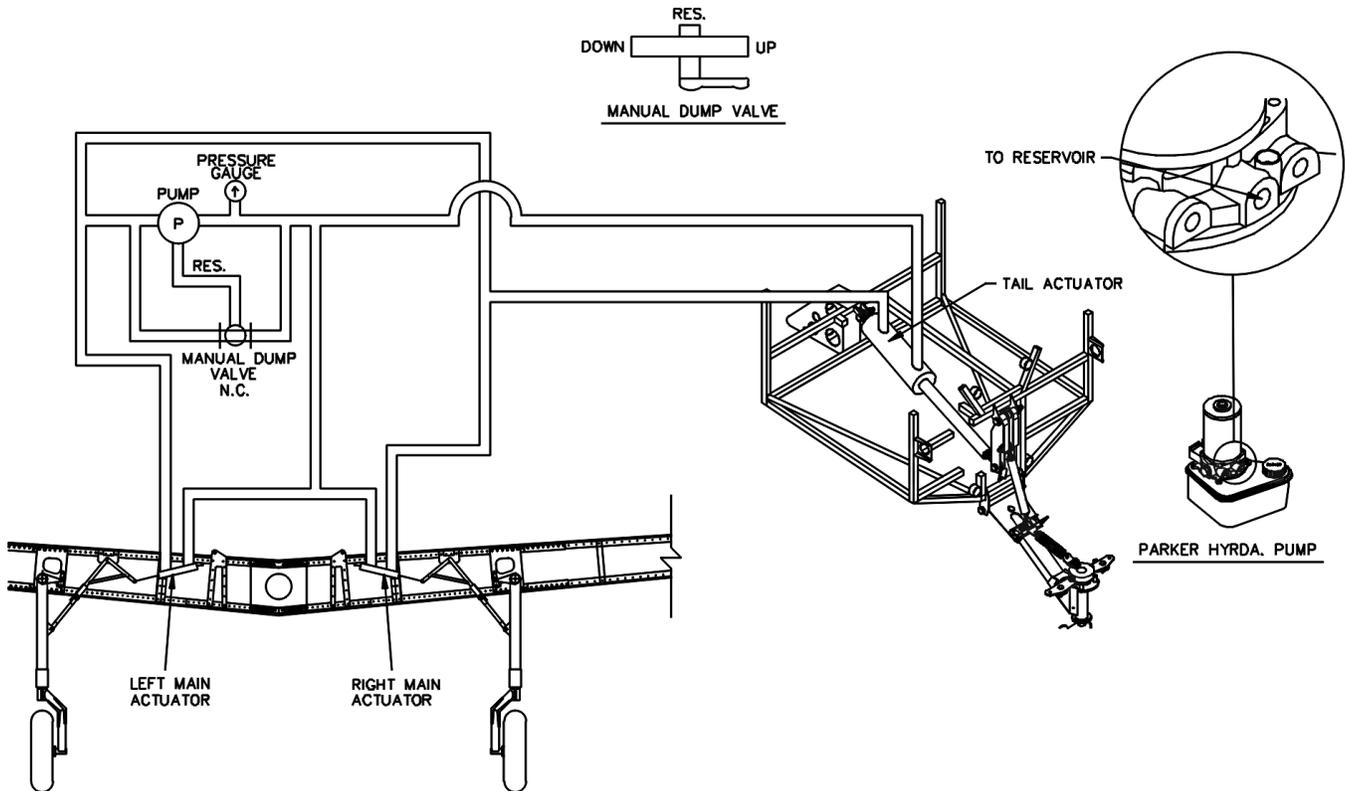

Figure 5
**Note B** - You can identify which system is used in the aircraft by the manual valves installed. If it has both a dump valve and a bypass valve, it is the early system. If it only has the dump valve, it is the simpler system. Refer to Figure 5.
Figure 5 shows a simplified hydraulics system using the Parker Hannifin hydraulic pump. Which has check valves and overpressure switches built in. This is a much simpler system and simplifies the emergency gear down procedure considerably. First double check, make sure the pump is running. If the pump is running the gear “in transit” light will be illuminated. If it is not, double check the landing gear lever position, and proper lever engagement, also double check that the circuit breaker is on. If all fails, it is recommended to open the emergency dump valve. This will allow the gear to extend under gravity. If the land gear circuit breaker switch is on the green “down and lock” lights will illuminate, when the gear is down and locked. If you do not have a green light, it is likely that the gear is no down and locked. Both main gear lights should be on (indication down and locked), before attempting a landing. It’s likely that the tailwheel will not come down under gravity, because the air loads usually hold the doors closed. If this is the case, it is recommended to perform a wheel landing and hold the tail in the air until the airplane comes to a complete stop. This should result in little to no damage to your plane.